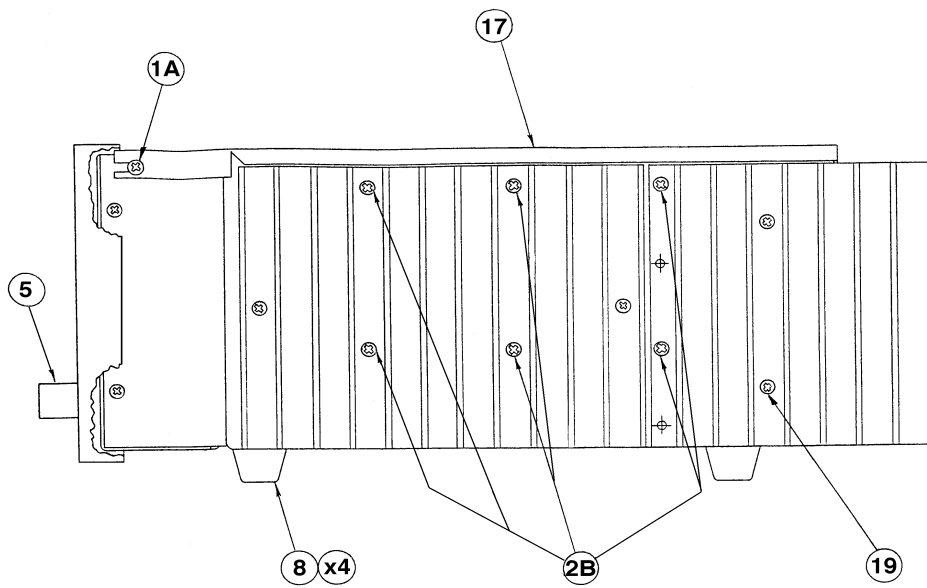

Figure 2. 1801 Side View
**3.3** Remove the six screws (2B) located on the side of the unit between the heat sink fins (see Figure 2).